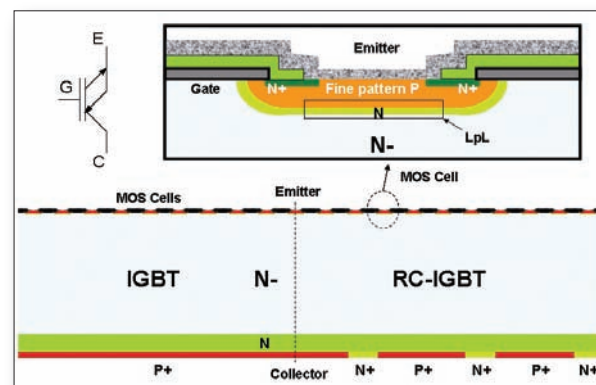

Figure 1: BIGT cross-section
The BIGT consists of a hybrid structure integrating an IGBT and an RC-IGBT into a single chip as shown in Figure 1. The main target of this combination is to eliminate snap-back behavior at low temperatures in the BIGT transistor on-state mode by ensuring that hole injection occurs at low voltages and currents from the P+ collector region in the IGBT section of the BIGT. The BIGT concept provides an optimum solution especially for thin devices with punch-through type buffer designs where the snapback phenomenon is pronounced in standard RC-IGBTs.
A three step approach is utilized to achieve this target. The first step is the fine control of the doping profiles of the emitter P-well cells and collector P+/N+ regions. As shown in Figure 1, the Enhanced-Planar (EP) cell technology does not include any highly doped P+ well regions and also exhibits a compensation effect due to the N-enhancement layer. These two features provide the BIGT with a fine pattern P-well profile for obtaining low injection efficiency for a better diode performance while maintaining the typical low IGBT losses associated with EP designs. The second optimization step employs a Local P-well Lifetime (LpL) control technique (see Figure 1 top) utilizing a well-defined